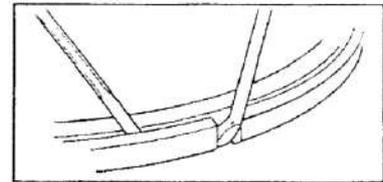

Figure 6
1. Remove the lock ring with two pry bars, Start at the split in the ring and then work the tools around the ring (See Fig. 6.)